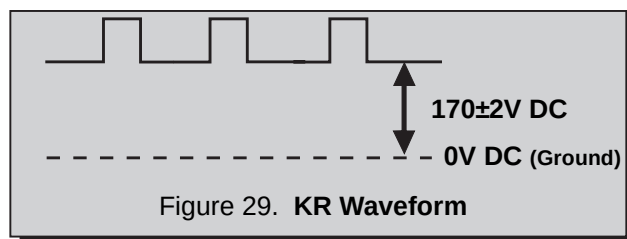

Figure 29. KR Waveform
6. Connect the scope to RED Cathode (KR) on the CRT-Board.
9. View scope trace at Horizontal rate and adjust the Service Mode DAC (C00) level until a scanning period of **170V** above DC ground is measured, as indicated in Fig. 29.